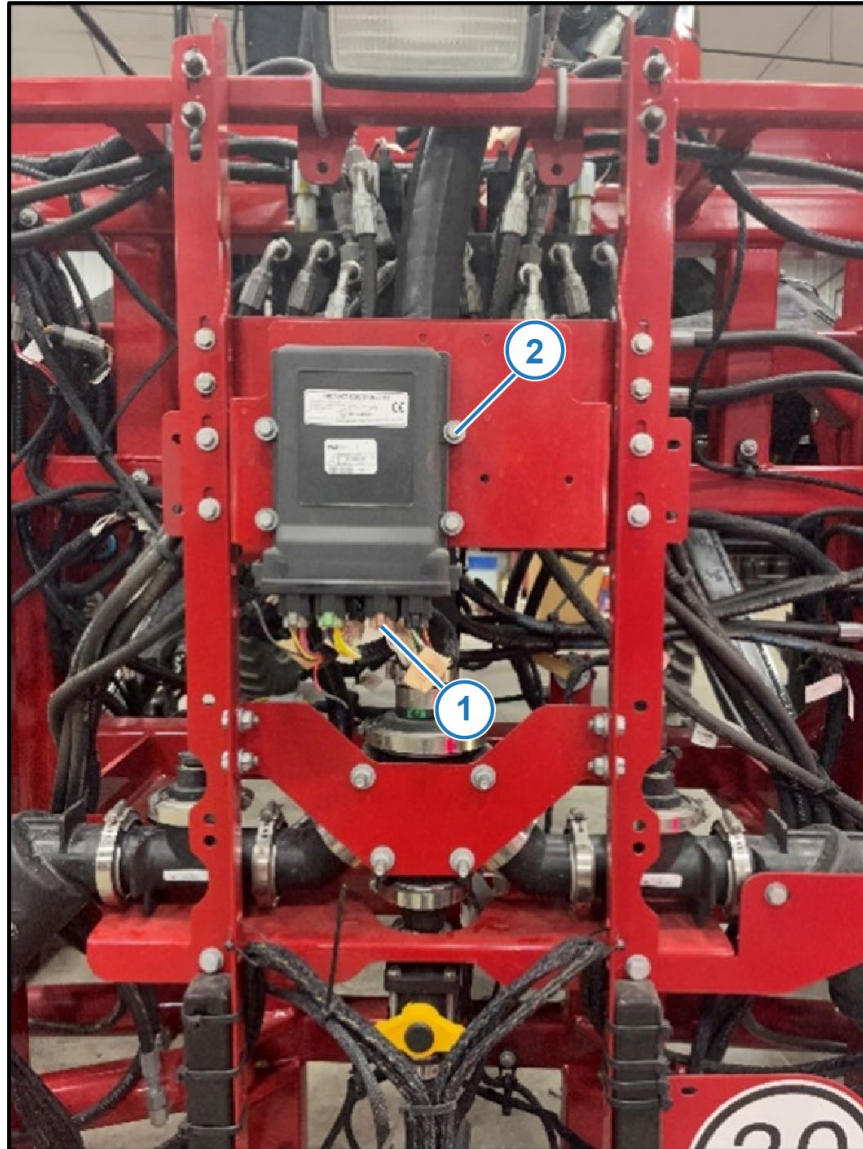

Figure 1 — Product Control Node Removal
2. *Figure 1:* Remove Product Control II Node (PCII) from machine by unplugging gray, green, brown, and black connectors (1) and removing mounting bolts (2)